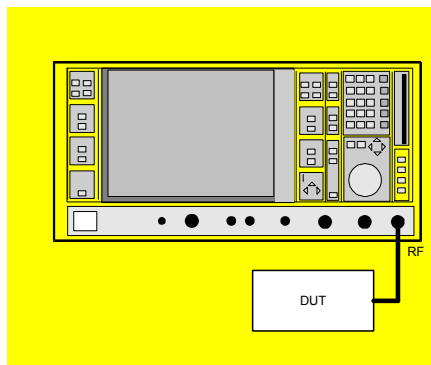

Fig. 1-1 Preparation for level detection
- Connect the DUT to the RF input of the spectrum analyzer (see Fig. 1-1).